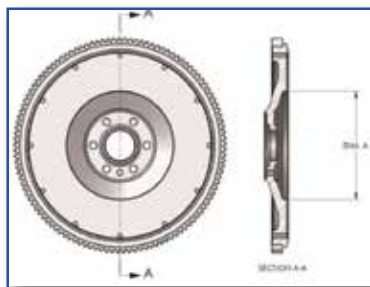

Fig. 1
Flywheel bore (DIM A) must be a minimum of 10". (Fig. 1)
4. Verify disc fits in flywheel bore (Fig. 1). Slide disc the length of the input shaft checking for twist and wear. Insert alignment shaft through bearing housing. Install rear disc (oriented correctly), center plate, and front disc (oriented correctly) on alignment shaft. Move clutch housing towards flywheel making sure cover fits into flywheel pilot.